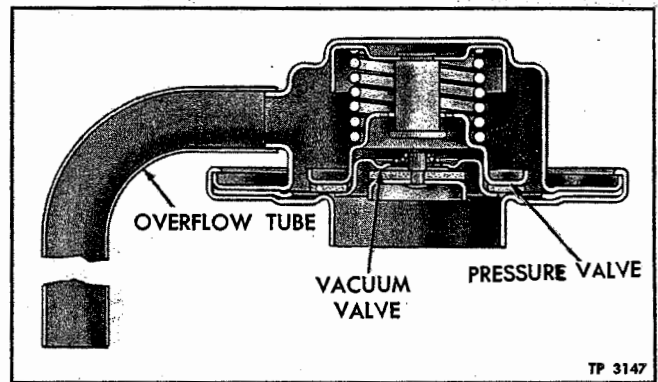
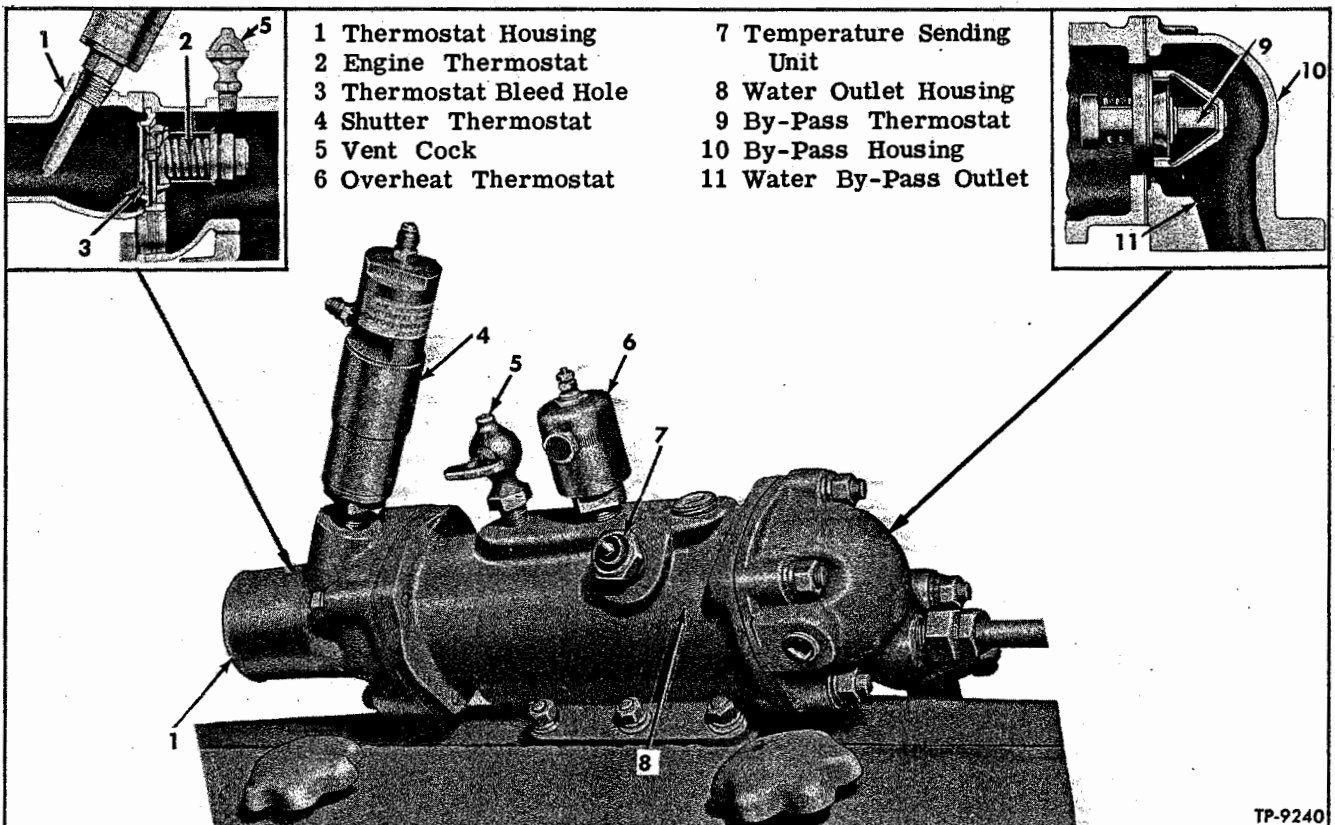
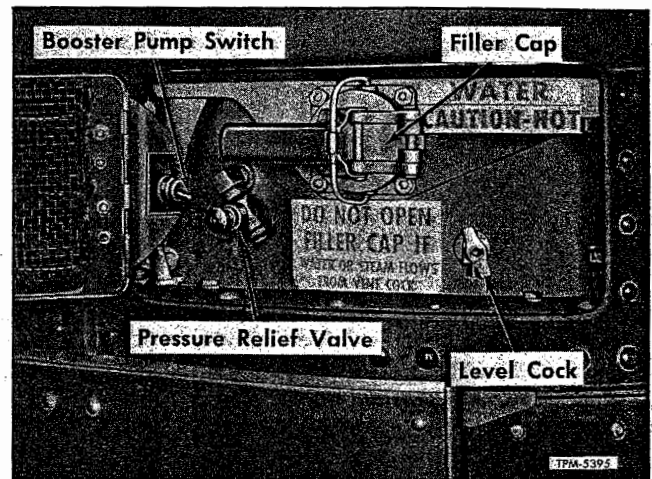

Figure 1—Cooling System Pressure Valve
Figure 2—Engine Water Outlet Housing and Control
Figure 3—Cooling System Units at Surge Tank
Engine is liquid cooled by means of a pressure-type system. System is filled through filler neck located in surge tank mounted in body above radiator. Pressure valve (fig. 1) is installed at top of surge tank. Manually operated valves, accessible after opening surge tank filler door, are provided to relieve pressure and for checking coolant level. Radiator is equipped with automatic shutters which are actuated by power unit connected to compressed air line. A six-bladed fan mounted on hub at front end of engine crankshaft (fig. 6) draws air through radiator core when shutter is open. Thermostats shown in figure 2 serve to direct circulation of coolant; and shutter thermostat incorporates an air valve which con-
trols radiator shutters. A thermal switch (overheat thermostat 6, fig. 2) signals driver in case temperature becomes too high. Engine temperature is registered on temperature gauge in driver's instrument panel. Gauge is electrical type actuated by sending unit (7, fig. 2) at engine.
Key numbers in text refer to figure 2.
Coaches are equipped with a push-button type pressure relief valve and tube. Valve is installed at left of filler cap, and is accessible after opening the surge tank filler door (fig. 3).
1. Press relief valve button (fig. 3) and hold depressed until all pressure in system is relieved.
2. As an added precaution, lift surge tank filler cap handle only to first or safety stage, standing clear to prevent burns from existing steam. After making sure all steam has escaped, trip catch and open filler cap (fig. 3).
3. With engine running, add coolant until liquid flows from level cock in surge tank (fig. 3). When closing filler cap, make sure safety catch engages edge of cap.
3. Open vent cock (fig. 2) on top of engine thermostat housing; and open level cock at surge tank (fig. 3).
5. On vehicles equipped with booster water pump, lift switch (fig. 3) for approximately 30 seconds. Booster pump will circulate water through the heating system and expel air from system. Add additional water to bring level of coolant up to level cock (fig. 3).
CAUTION: To avoid injury, always press and hold relief valve button (fig. 3) until pressure is released before opening filler cap.
1. At surge tank, check coolant level by opening level valve (fig. 3). If liquid flows out, system contains adequate solution. If coolant is low add water as necessary. NOTE: Refer to "Filling Cooling System" previously, for filling instructions.